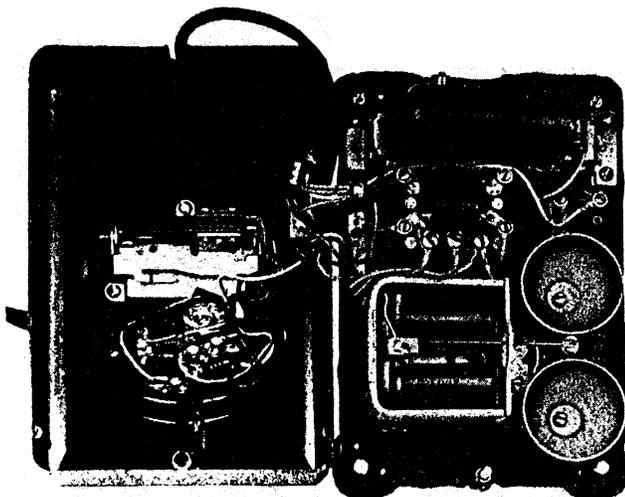

Fig. 8 — 306C Telephone Set — Interior
**2.06** The 306-type telephone set is for use on common battery 4-party full selective and 8-party semiselective service. It is similar to the 302-type except that it employs an electron tube and a B3A ringer instead of a ringing capacitor and a B1AL ringer. (See Fig. 8.)